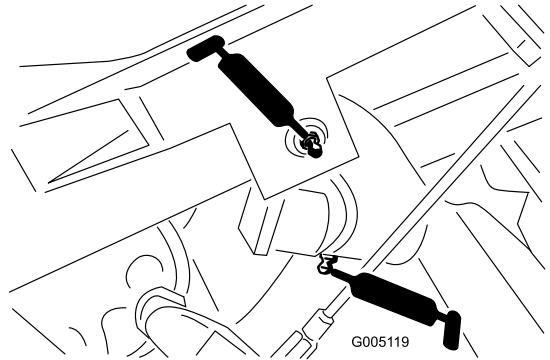

Figure 37
- Lift arm pivot (3) and pivot hinge (3) (Figure 37)